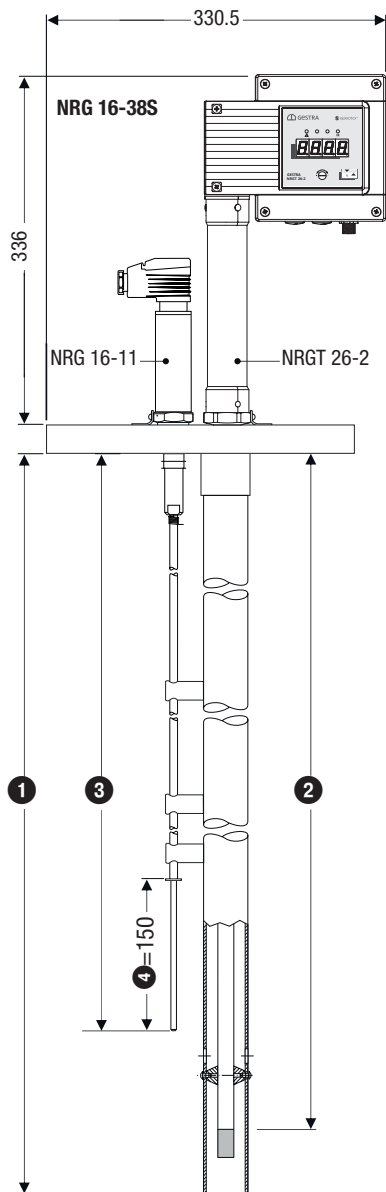
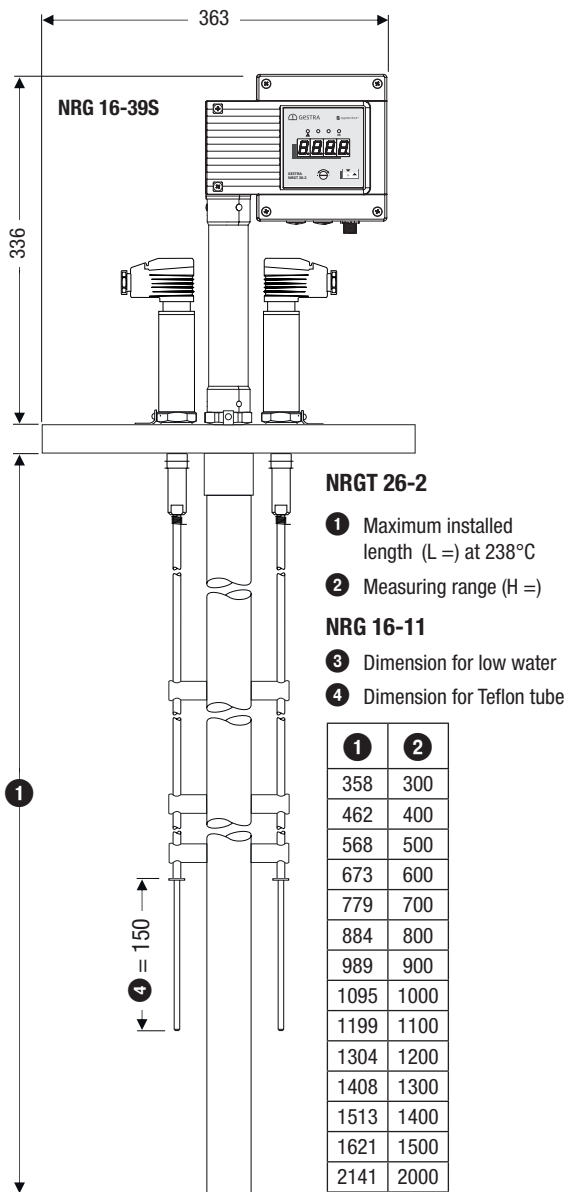
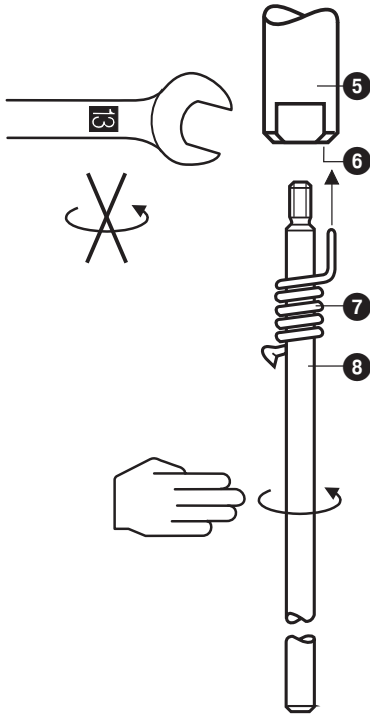
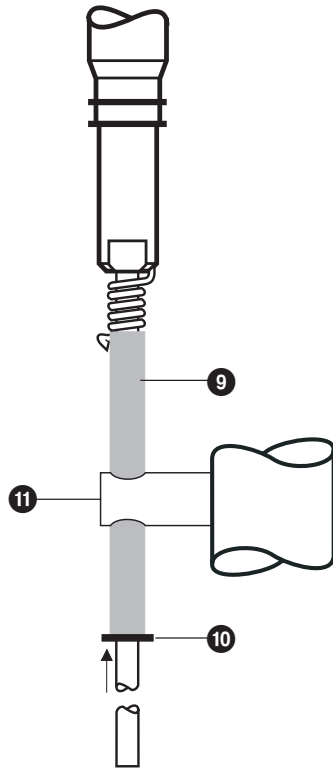

Fig. 4
Fig. 5
Fig. 6
Fig. 7
1. Mark the dimension for low water on the electrode extension ⑧ and slide the retaining spring ⑦ out of the hole ⑥ of the measurement electrode ⑤. Mark the dimension for low water and the dimension ④ (150 mm above low water, see Fig. 4 and Fig. 5 on page 12) on the protective tube of the level transmitter. Fig. 6, Fig. 7
2. Unscrew the electrode extension ⑧ from the measurement electrode ⑤ and remove the retaining spring ⑦. Pull the electrode extension ⑧ through the spacers ⑪, remove the lock washer ⑩ and shorten the electrode extension ⑧.
3. The electrode extension ⑧ is covered with a Teflon tube. At the lower end, lower the Teflon tube to 150 mm (dimension ④). Slide a new lock washer from below over the electrode extension up to the insulation. At the upper end, leave a length of 20 mm uninsulated for the retaining spring ⑦. New lock washers ⑩ are located on the connecting head of the level transmitter NRG 26-2.
4. If there is a spacer a within the dimension range ④, it must be disassembled from the protective tube of the level transmitter. The disassembled spacer ⑪ then has to be screwed back into the next free M4 hole of the protective tube just above the dimension range ④. To prevent vibration of the electrode extension ⑧, M4 holes for fastening the spacers are provided every 100 mm in the protective tube of the level transmitter from below from a length of 350 mm.
5. Guide the electrode extension ⑧ through the spacers ⑪, slide the retaining spring ⑦ back on and tightly screw the electrode extension into the measurement electrode ⑤.